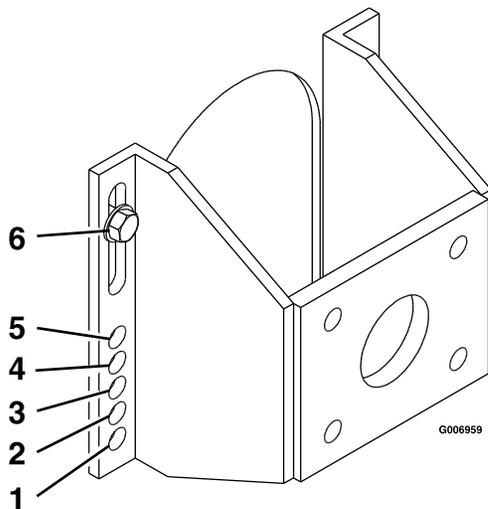
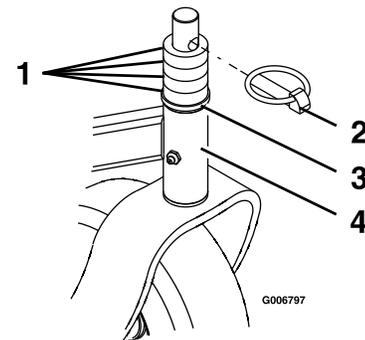

Figure 9
Figure 10
| Cutting Height Range | Axle Position (Figure 9) | Number Of Spacers Below Caster Support Hub | | Number of 1/4 inch (.64 cm) Blade Spacers Below Spindle | | | | |
Desired cutting height range can be obtained by adjusting the rear axle and placing caster spacers above or below the caster arm (see Figure 9 and Figure 10 along with the Cutting Height Adjustment Chart).
4. Loosen but do not remove the top two bolts on each hydraulic motor mounting bracket (see Figure 9).
6. Remove “quick pin” from one caster and remove caster from hub (see Figure 10).